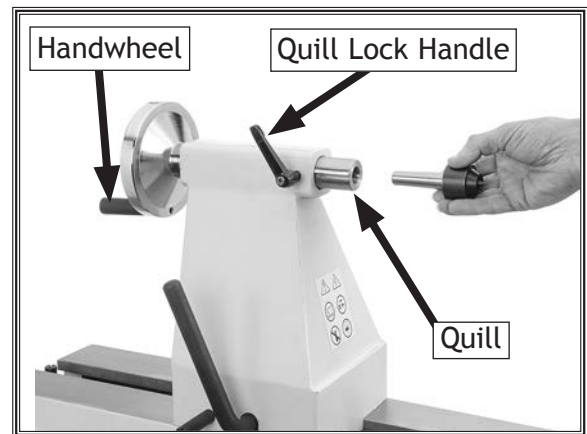

Figure 27. Installing center into tailstock quill.
1. Loosen quill lock handle, and rotate handwheel until quill extends about 1", as shown in **Figure 27**.
3. Firmly insert tapered end of center into tailstock quill, as shown in **Figure 27**.